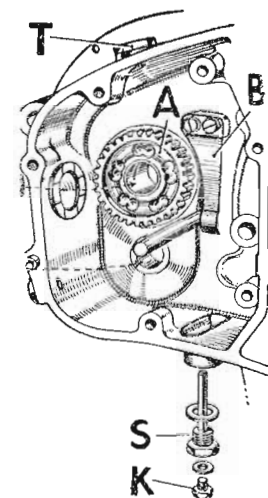

Fig. 15.
Apart from topping-up at regular intervals, very little maintenance should normally be required. The gearbox drain plug (S) incorporates a level plug (K) and, to top-up, remove the filler plug (T) Fig. 15, take out the level plug and replenish with the correct grade of oil until it starts to flow out through the level plug hole.